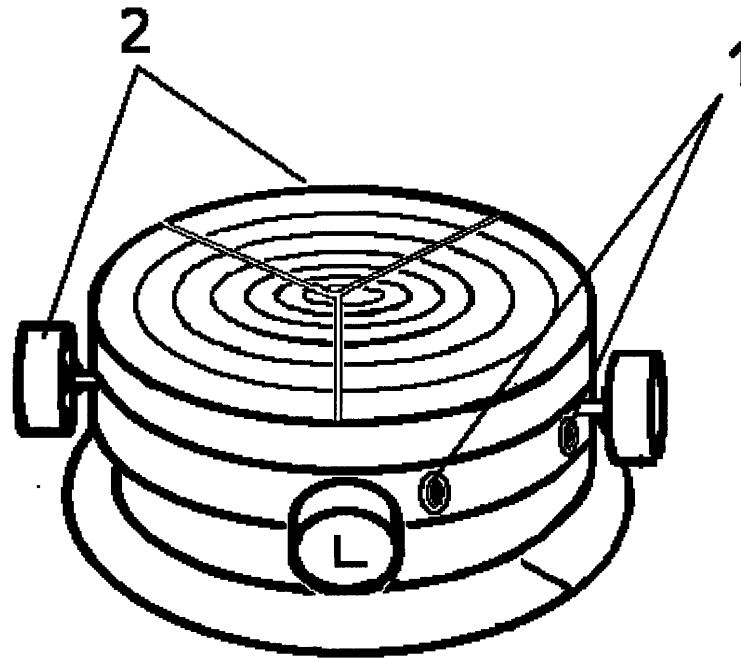

Fig 3.1 Removal of the C & L Table
2.3.1 Referring to Fig 3.1, slacken the two spring adjuster screws H45/9049 (item 1), situated between the two levelling knobs H45/9185, securing the C&L Table to the top thrust plate of the Spindle and back off the centring knobs (item 2).